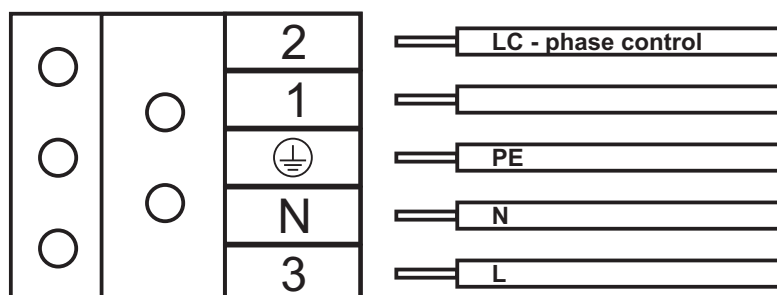

Fig. 1.
9. Connect the cable's conductors to the cube on the support plate in line with designation (see figure 1.)